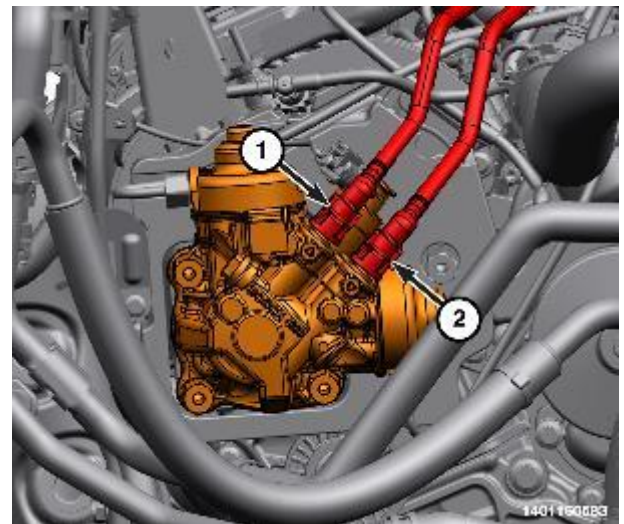

Figure 155 – Low Pressure Supply and Return Connections
- 19. Disconnect the low-pressure supply (2) and return (1) lines from the fuel injection pump (Figure 155).